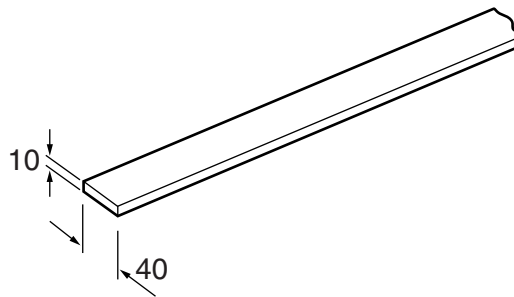

Fig. 8
- (a) Fig. 8 shows a length of wood from which the strips are made.